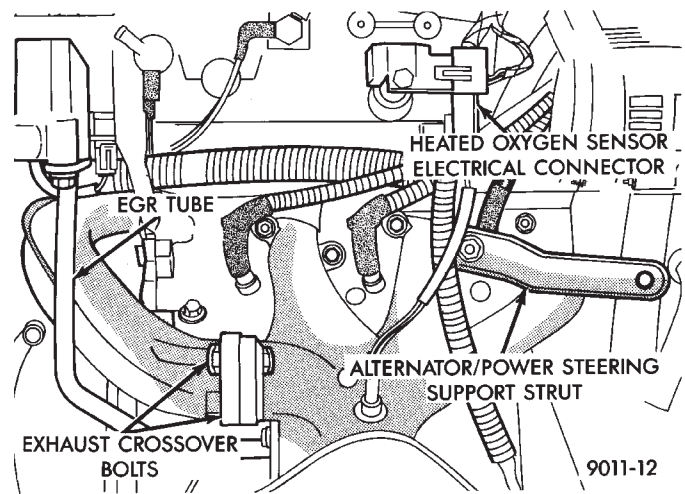
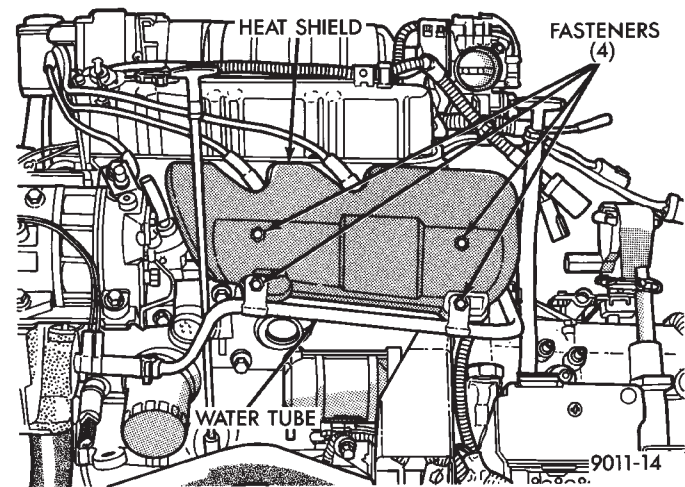

Fig. 16 EGR Tube, Heated Oxygen Sensor and Generator/Power Steering Strut
Fig. 17 Heat Shield
(1) Raise vehicle and disconnect exhaust pipe from rear (cowl side) exhaust manifold at articulated joint.
(2) Separate EGR tube from rear manifold and disconnect Heated Oxygen Sensor lead wire (Fig. 16).
(3) Remove Generator/Power Steering Support Strut (Fig. 16).
(4) Remove bolts attaching cross-over pipe to manifold (Fig. 16).
(5) Remove bolts attaching rear manifold to cylinder head and remove manifold.
(6) Lower vehicle and remove screws attaching front heat shield to front manifold (Fig. 17).
- (1) Install rear exhaust manifold and tighten attaching bolts to 23 N•m (200 in. lbs.).
- (2) Attach exhaust pipe to exhaust manifold and tighten shoulder bolt to 28 N•m (250 in. lbs.).
- (3) Attach crossover pipe to exhaust manifold and tighten bolt to 33 N•m (25 ft. lbs.) and connect oxygen sensor lead (Fig. 16).
- (4) Reinstall EGR Tube and Generator/Power Steering Strut (Fig. 16).
- (6) Install front manifold heat shield and tighten attaching screws to 23 N•m (200 in. lbs.) (Fig. 17).